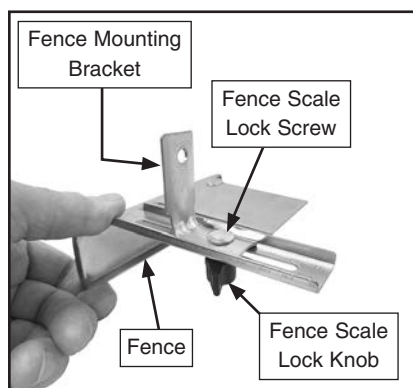

Figure 9. Fence assembly.
2. Secure fence to fence mounting bracket with fence scale lock knob and fence scale lock screw (see **Figure 9**).